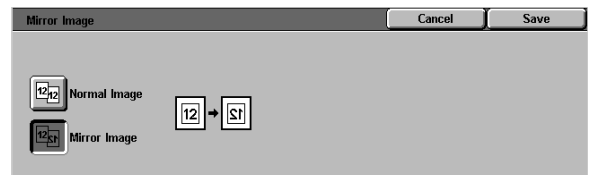

Figure 30: Mirror Image screen
- 2 Touch the **Mirror Image** icon to display the Mirror Image screen, as illustrated in Figure 30.